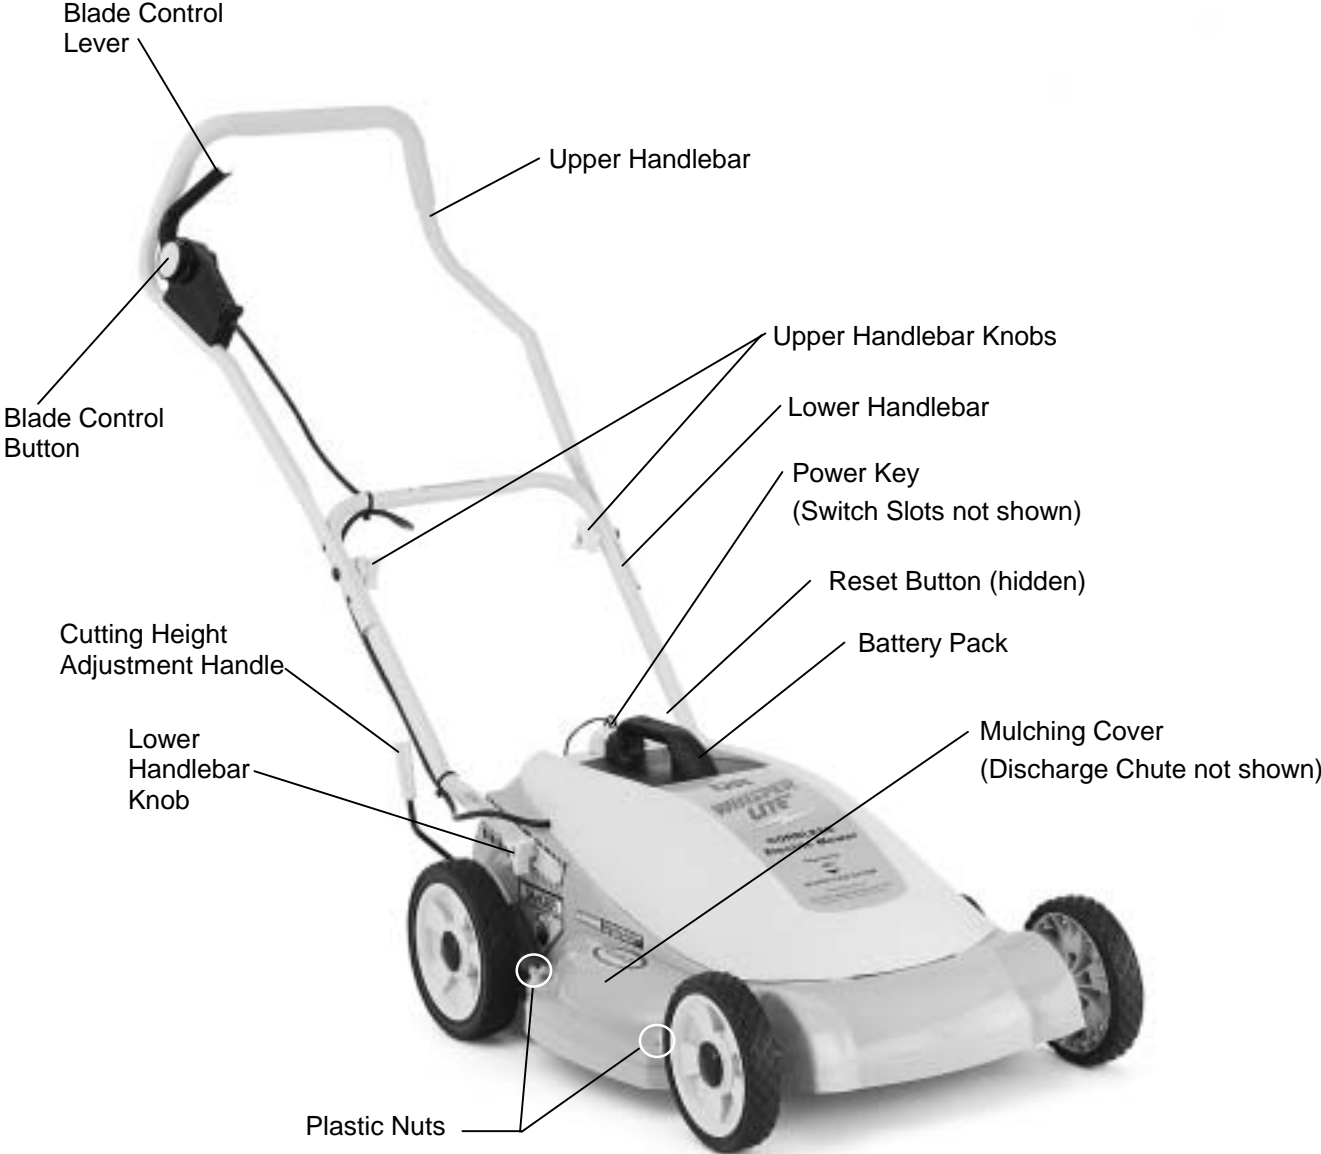

Figure 1
1. Open the top flaps of the carton and remove the inserts. Remove the loose parts, including the side discharge chute, battery pack, battery charger, battery charger lead and power key (*Figure 1, page 1*).
2. To fold the handlebar assembly away for storage, loosen the hand knobs which secure the lower handlebar to the deck (see *Figure 1* on page 1). Fold the entire handlebar assembly forward and down over the mower until the grips are resting on the ground. Then loosen the knobs which secure the upper handlebar to the lower handlebar and fold the upper handlebar backward until it rests on top of the mower.